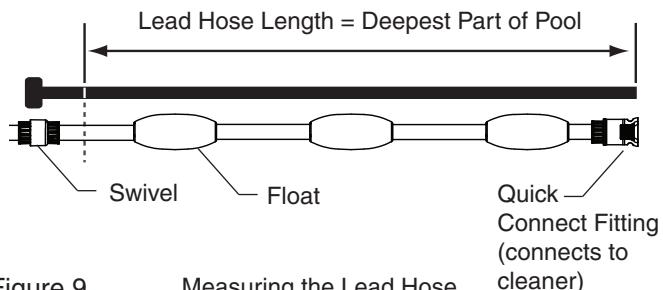

Figure 9. Measuring the Lead Hose
2. If the pool depth is less than 3m. (10 ft.), disconnect the soft light grey lead hose, labeled section one, from the swivel end. Cut the lead hose so the length is equal to the deepest part of the pool. **See figure 9.**